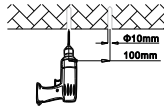

Figure 3
1. Mark with a mark pen or sharp tool on the mounting surface and drill. (Figure3)